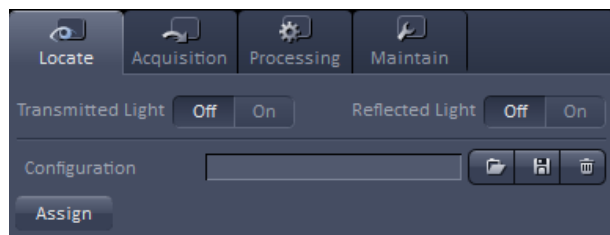

Fig. 43 Locate tab– Configuration panel
**Locate** contains all functions of the microscope for visual inspection of the sample through the eyepieces (Fig. 43).
The **Microscope Control** and **Incubation** tools are available in the **Locate** tab (Fig. 43). By pressing the expansion symbols in the bars the **Microscope Control** and **Incubation** tools become available. The **Microscope Control** tool permits configuring beam paths, which can be saved and reloaded in the **Configuration** field. Motorized functions controlled from the **Microscope Control** tool include objective, reflector cube and illumination mode (transmitted or reflected light) selection. The **Incubation** tool allows setting the temperature, CO2 level, O2 level and humidity.